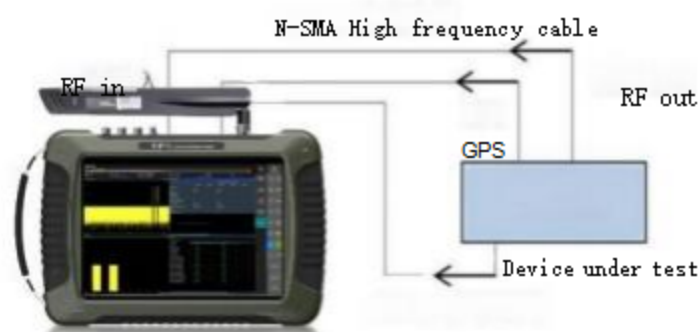

Figure 5.31 Schematic diagram of the tested equipment and RMT series spectrometer
- Step 1. Connect the signal output port of the device under test to the RF input port of the RMT series spectrometer, as shown in Figure 5.31. It is recommended to connect the